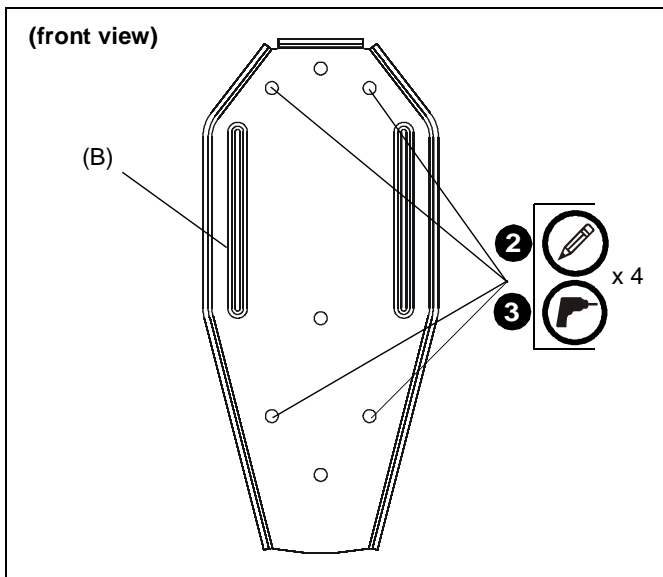

Figure 1
2. Using wall bracket (B) as a template, mark four holes at the outer bracket holes. (See Figure 1)
3. Drill four 3/8" x 3-3/8" deep holes at marked locations in wall. (See Figure 1)